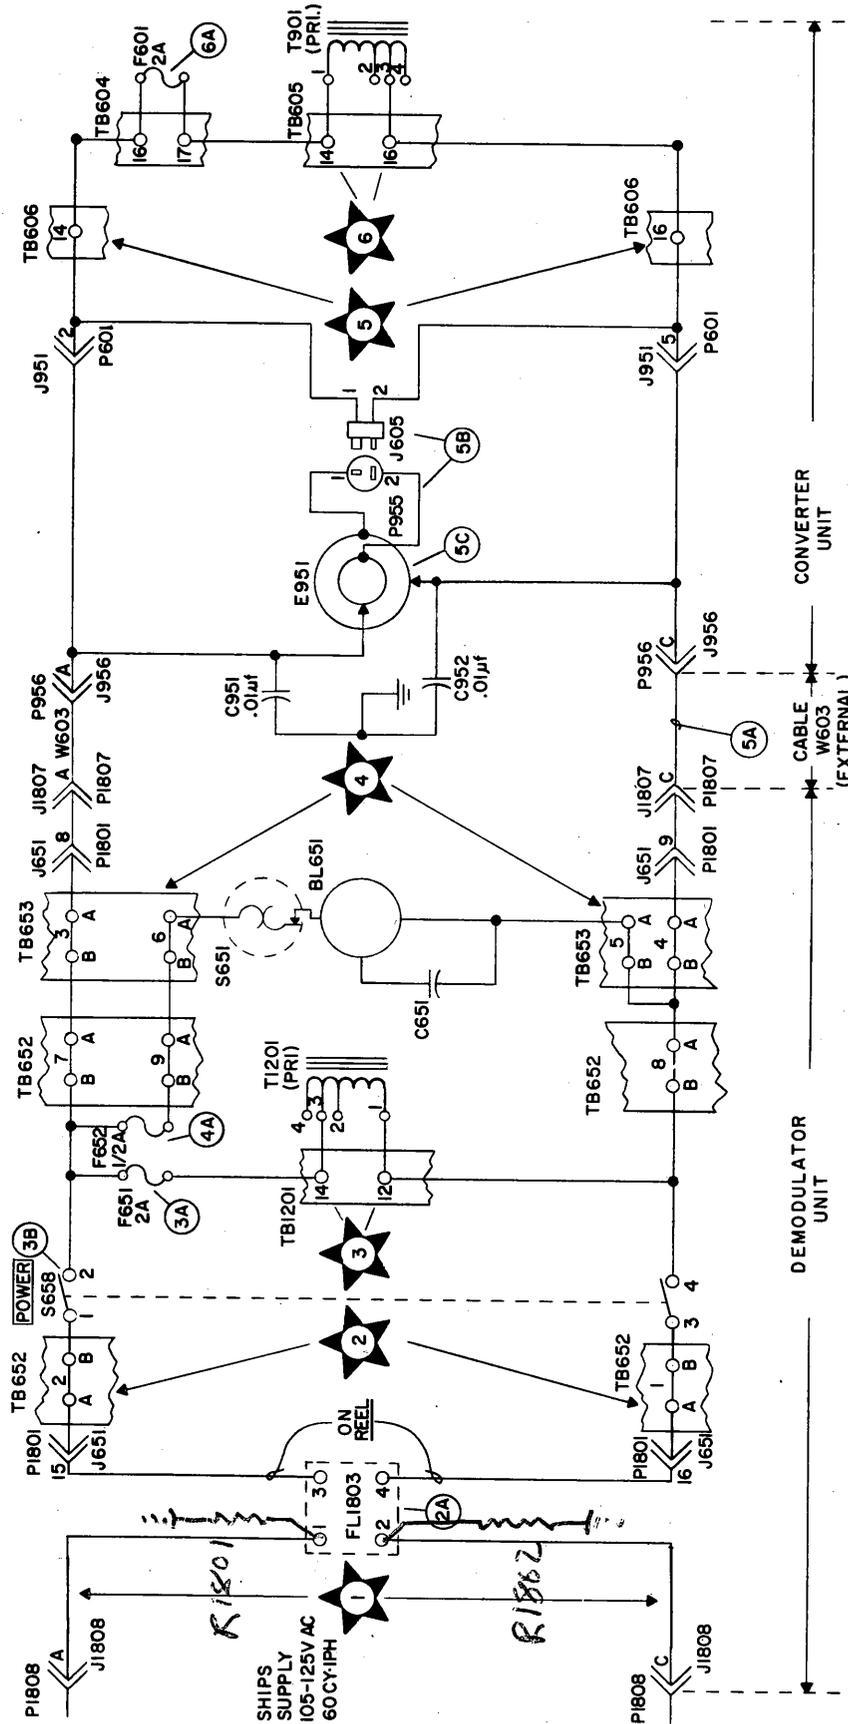

Figure 5-1. Radio Receiving Sets AN/WRR-2A & AN/FRR-59A Power-Distribution Diagram
a. GENERAL.— Figure 5-1 is a power-distribution diagram of the receiver. When tracing the power circuits, make certain that the main power is being supplied.